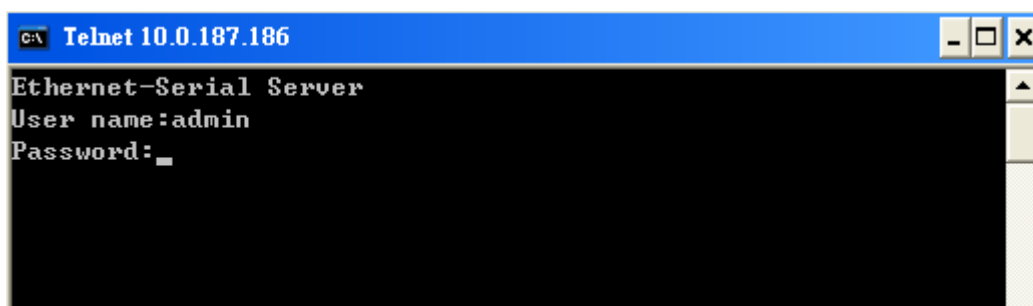

Fig. 3. 1
- ➔ Telnet to SE5002D using the command **"telnet IP_address"**. (For example: **"telnet 10.0.50.100"** in MS-DOS command prompt window). After telnet into SE5002D, the system will prompt for a password is blank, Fig. 3. 1.